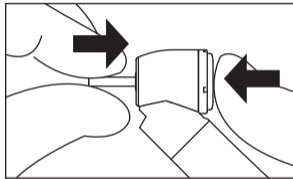

Fig. 4
- 1) Insert the bur until it is fully seated. (Fig. 4)